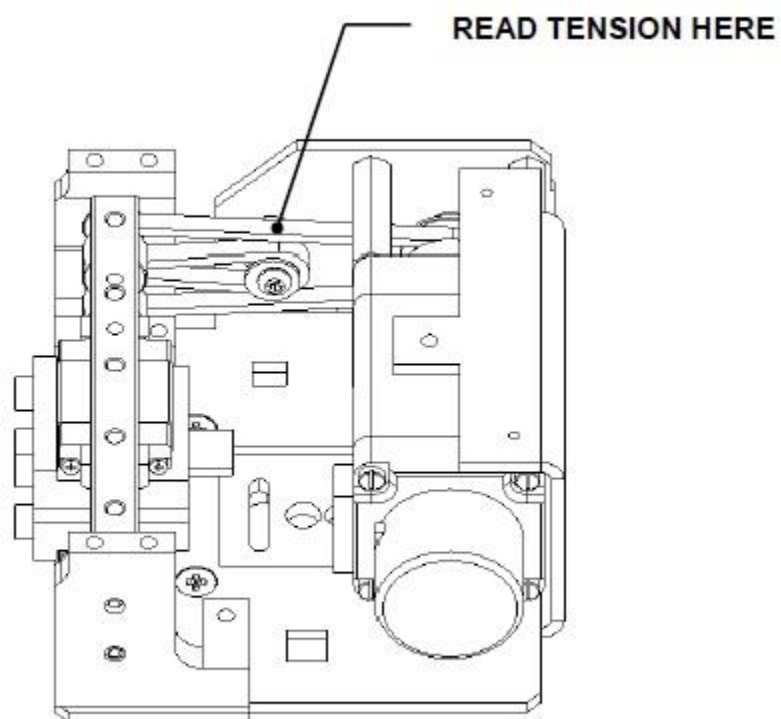

Figure H-20: Location of Tension Meter
2. Position the Gates Sonic Tension Meter 507C at the position indicated in Figure H-20, approximately in line with the Eccentric Idler. The Tension Meter must be 3-6mm away from the belt to obtain a reading.